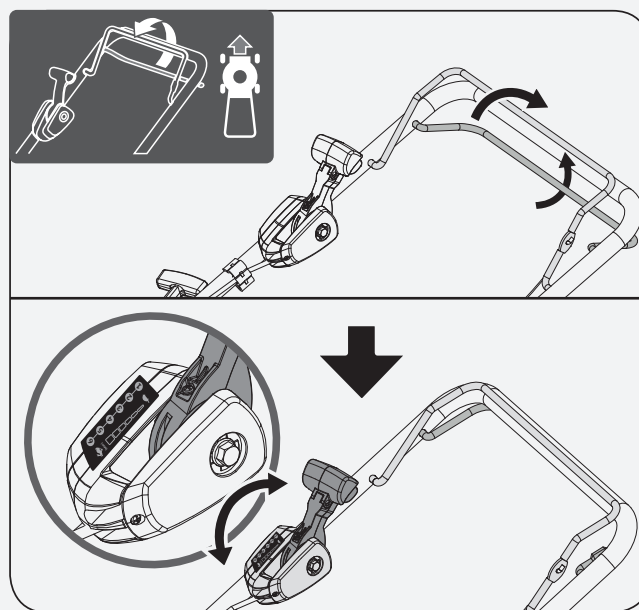

Figure 8
3. Release the drive control lever to disengage the drive, for example when you go near an obstacle. (See **Figure 8**)